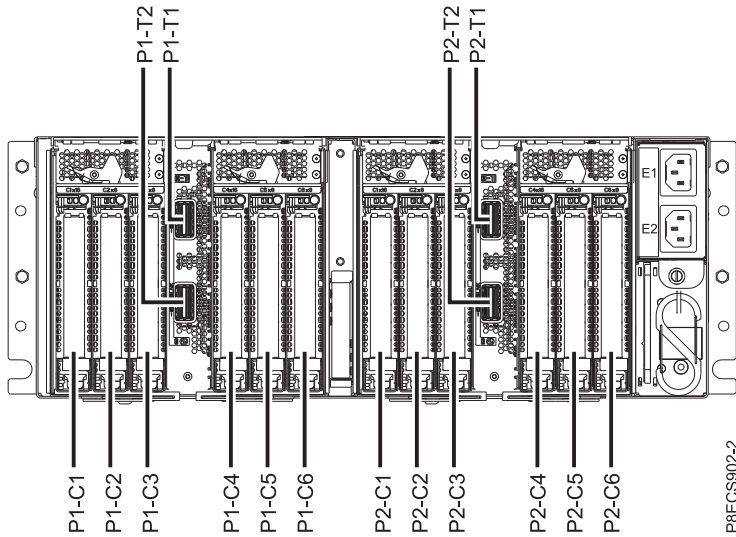

Figure 1. PCIe adapter slot locations in the EMX0 PCIe3 expansion drawer
2. Determine the slot in which you want to install a PCIe adapter. The PCIe adapter slots are located in the I/O module bay that is installed in rear of the EMX0 PCIe3 expansion drawer. Figure 1 on page 2 shows the PCIe adapter location codes.